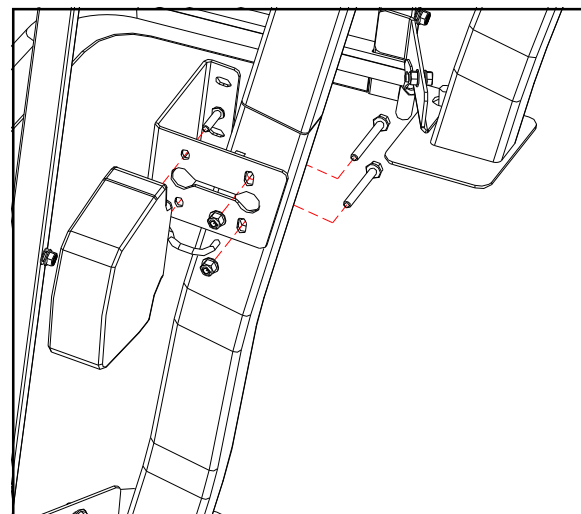

Fig. 6.3 (GC1710 & GC1720 Only)
6.3 Install the left ROPS bracket to the folding ROPS as shown. Repeat on the right side. Tighten all hardware. See Fig. 6.3